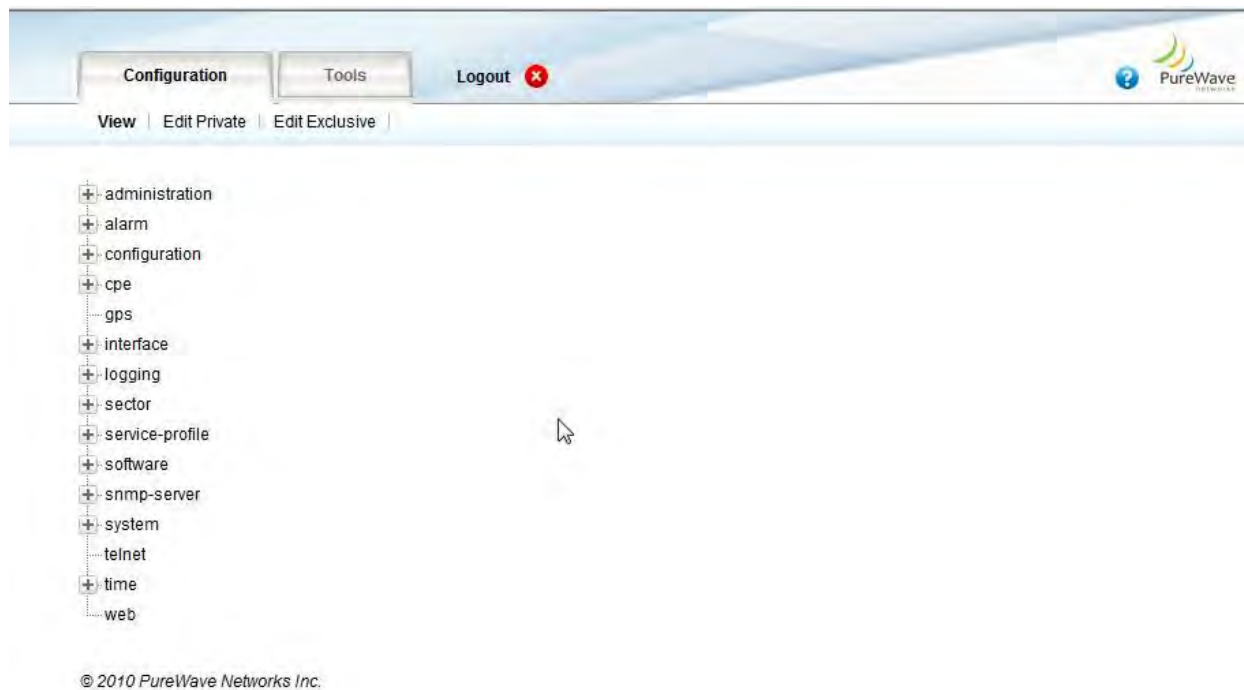

Figure 10 Web GUI Interface Configuration Menu
1. From the Main Web GUI Interface Screen select the *Configuration* Tab and then the *web* Main Menu Option from the left-hand side menu (Figure 10)